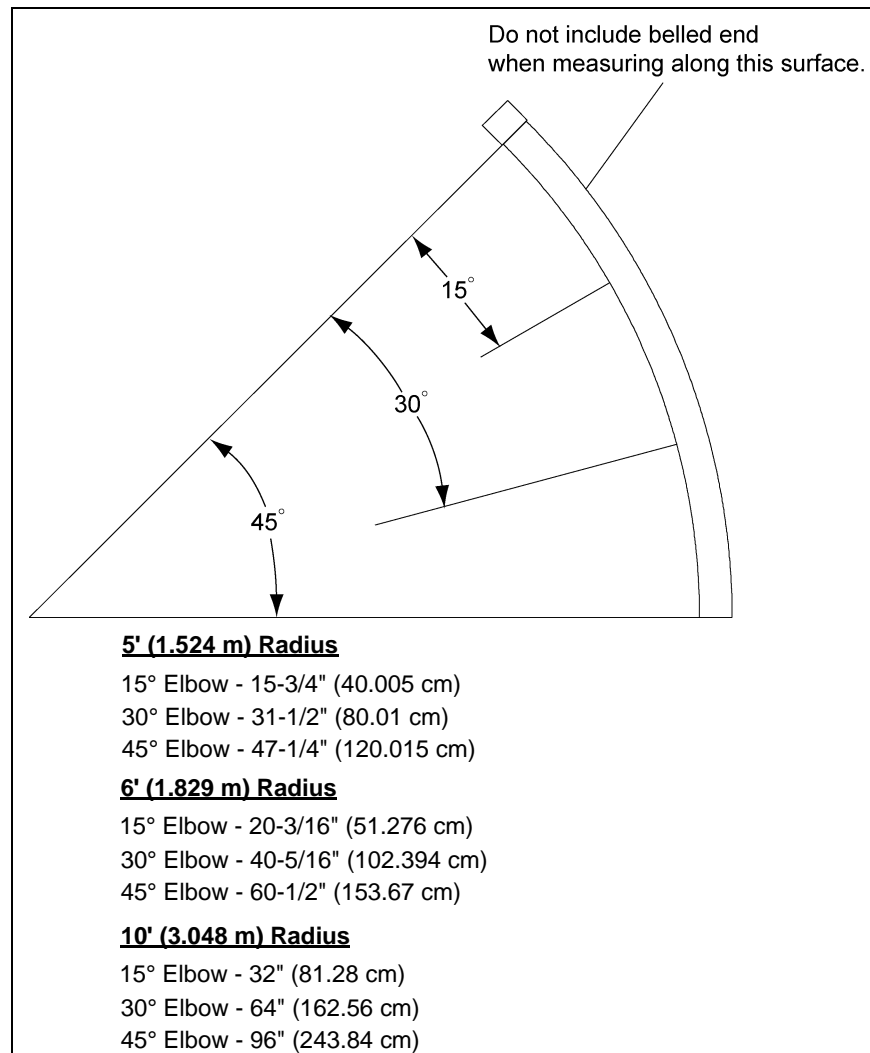

**Figure 5J** Seal Ring and Neoprene Seal Installation
1. Establish the entry point where the auger tube will enter the building. Once the entry point is determined, cut a hole large enough to accommodate the tubing. A seal ring and a neoprene seal are provided to seal the excess area between the tube and the hole in the building. The seal ring and the neoprene seal shall be installed as shown in Figure 5J.